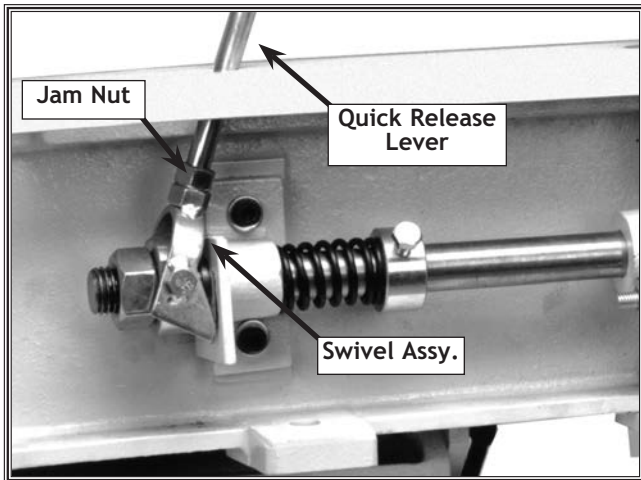

Figure 17. Quick release lever, jam nut, and swivel assy.
3. Thread the 1/2" jam nut onto the quick release lever until the nut bottoms at the end of the lever threads and thread the lever into the swivel assembly until the lever bottoms. If required have an assistant push the idler roller inward to line up the swivel assembly with the threaded lever. See Figure 17.
4. Tighten the jam nut and the belt tracking lock knob. See Figure 17.